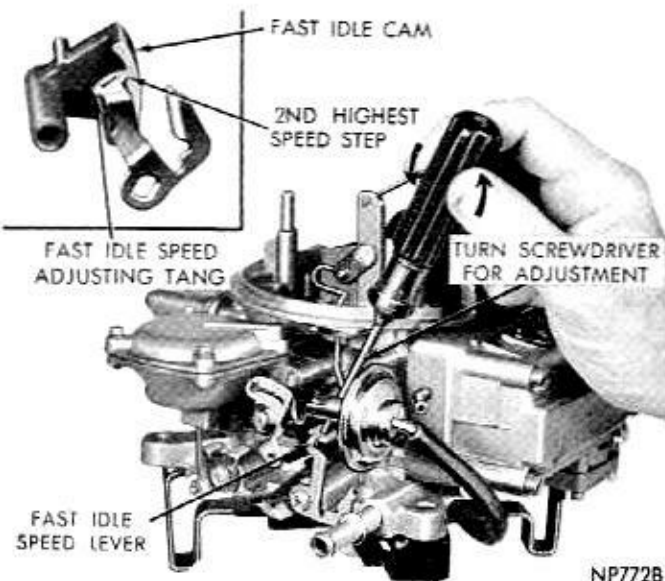

Fig. 20—Fast Idle Speed Adjustment (On Vehicle)
(2) Close choke valve until fast idle screw tang can be positioned on the second highest-speed step of the fast idle cam (Fig. 20).
(3) Start the engine and determine the stabilized speed. Bend the fast idle tang by use of a screwdriver placed in the tang slot to secure the specified speed.*